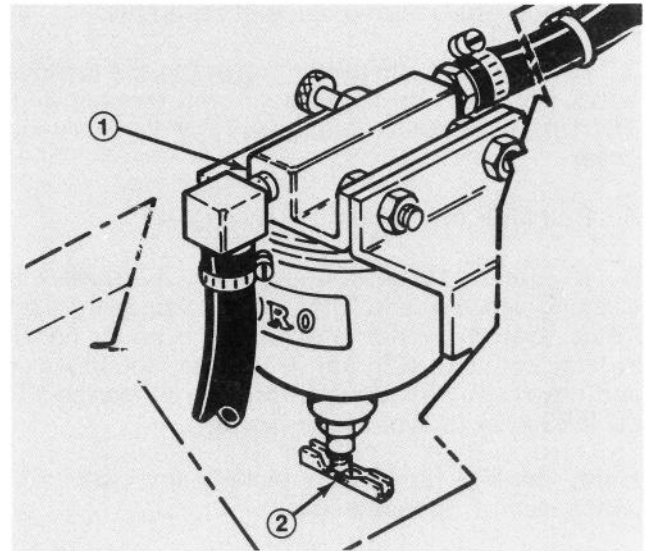

Figure 45
4. Remove oil drain plug and allow oil to flow into drain pan. Remove and replace oil filter (Fig. 45); refer to parts catalog for part number.
Drain water or other contaminants from fuel filter/water separator (Fig. 45) daily by loosening drain plug on filter canister. Tighten plug after draining. Replace filter canister after every 400 hours of operation.